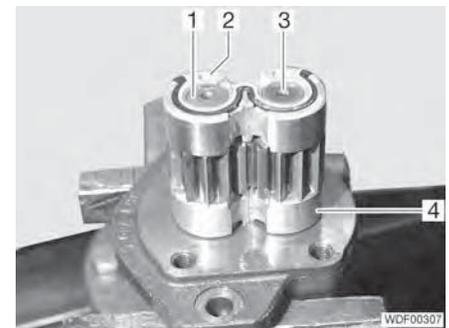

Fig. 149 Internal configuration
- Remove the outer bearing (Fig. 149,2) and place it aside.
- Remove the gears (Fig. 149,1 and 3) and place them aside.
- Remove the inner bearing (Fig. 149,4) and place it aside.
- Place the inner bearing (Fig. 149,4) onto the flange.
- Insert the gear wheel (Fig. 149,1) through the bearing and the flange.
- Insert the gear wheel (Fig. 149,3) into the inner bearing.
- Connect the outer bearing (Fig. 149,2) onto the gear wheels.